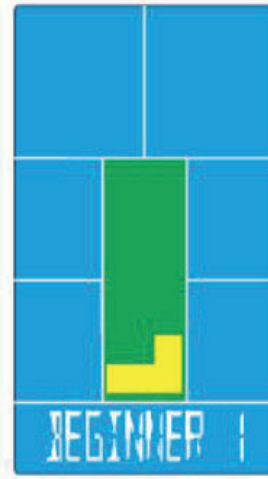
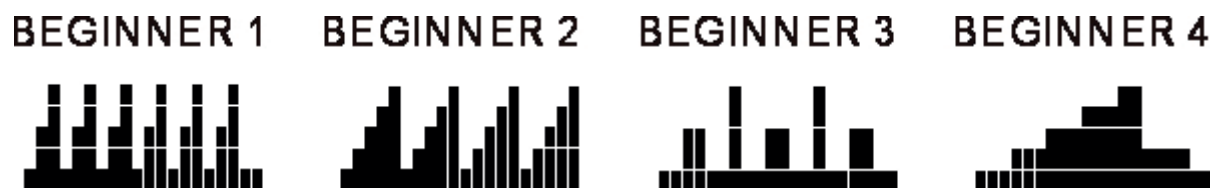

Fig. 5
Fig. 6
*You can now choose from Beginner 1 - 4 (see fig. 5 and fig. 6).*